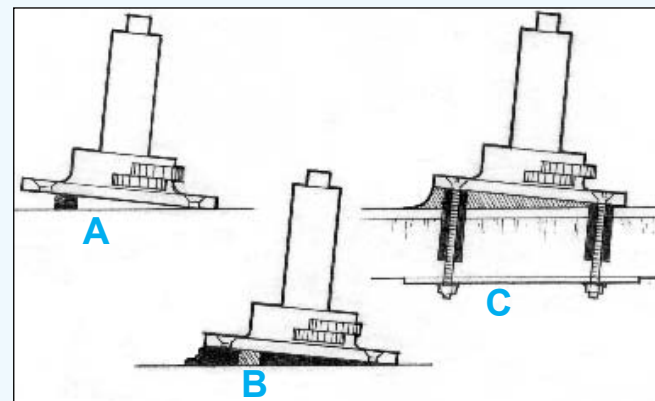

Figure 19 Support the base in position with blocking - apply enough thickened epoxy to fill the void.
2. Bond small blocks to the substrate to support the base at the desired height and position (e.g., winch base, Figure 19"A").
4. Place the hardware in position, resting on the blocks (Figure 19"B") and install the fasteners.
5. Smooth the excess epoxy into the desired fillet shape around the base (Figure 19"C"). Allow the epoxy to cure fully before loading. Protect exposed epoxy from UV. (see *finish coating page 29*).